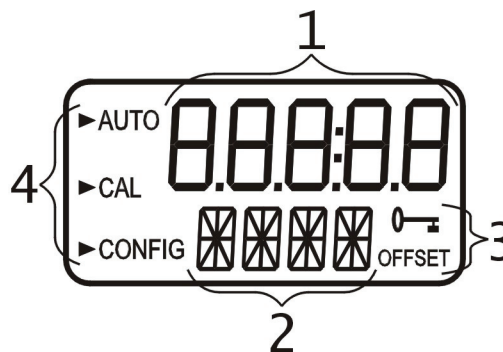

Figure 2.1 - Display Used in the Instrument
Figure 2.1 illustrates all the items that can appear on the display. The upper row of the display (1) is used for reporting the turbidity levels and to provide user guidance in the customer setting routine. The lower row of the display (2) is used to communicate error messages and provide user guidance. The display has two icons (3) that are used to indicate the use of access code and offset mode. In addition, mode arrows (4) are used to indicate the current instrument operating mode; **AUTO** (normal operation), **CAL** (calibration) and **CONFIG** (configuration).
All items used on the display are shown in Figure 2.1.